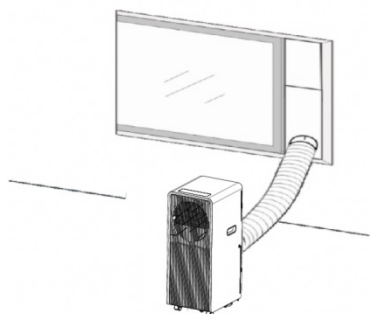
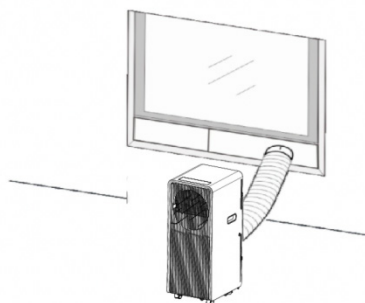

Fig. 2
Fig. 2a
- 2) As shown in Fig.2 and Fig.2a, install the exhaust hose, and adjust the window position well.